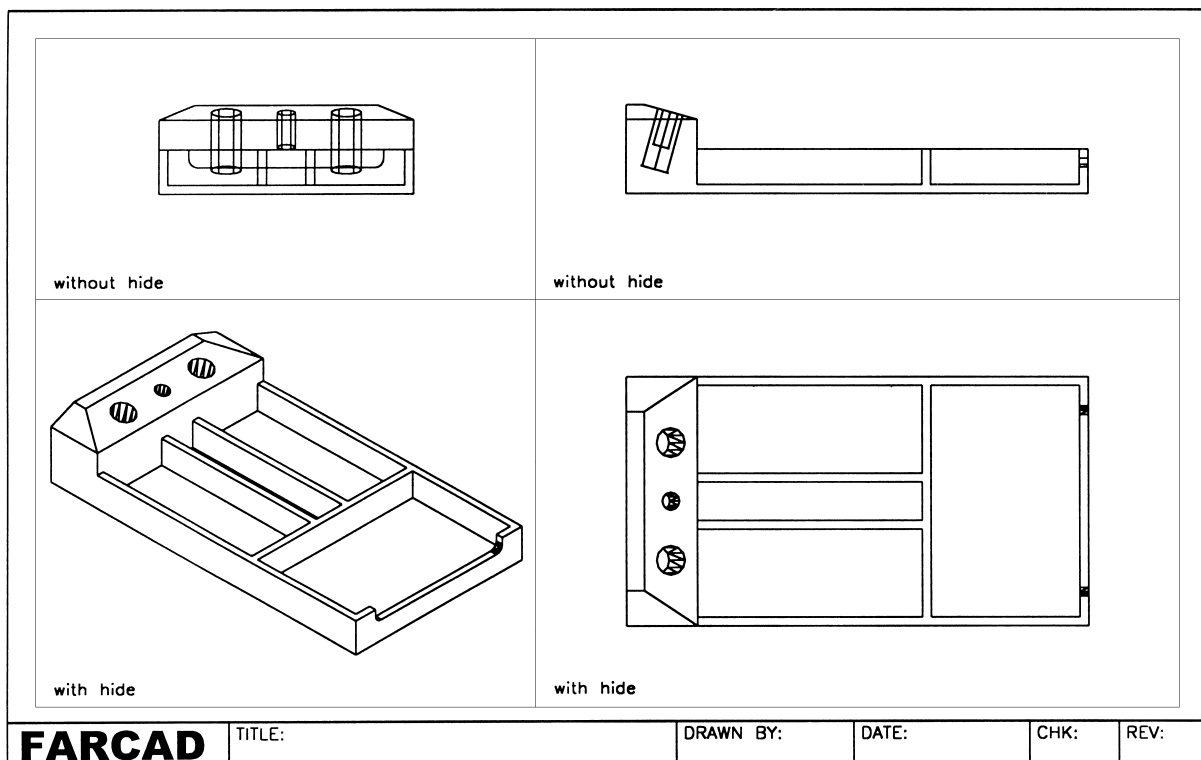

Figure 41.2 Complete desk tidy model.
- 2 The model is now complete and your screen display should be similar to Fig. 41.2